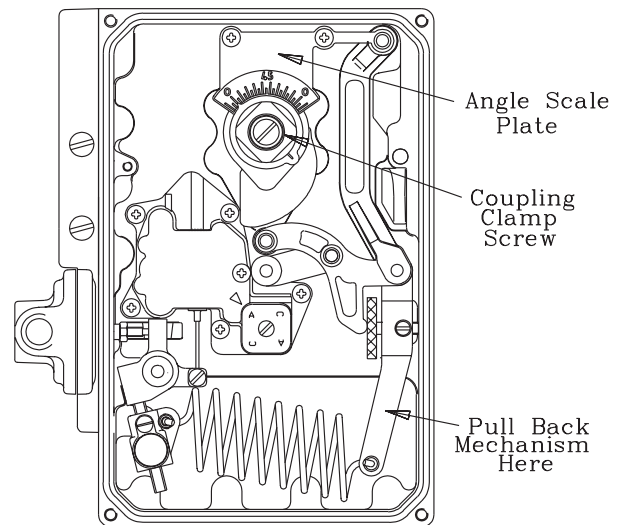

Figure 2. View of inside of Positioner Box Showing Parts for Removal During Installation.
2.1.2 Remove positioner cover and undo the two M4 screws retaining the red angle scale plate and remove coupling as shown in figure 2.
2.1.4 Observe the direction that the cam moves with a rising signal and, if correct, place the coupling on the actuator square with one hand whilst pulling back the mechanism with the other (refer to figure 2). If the direction is not as required then refer to section 4.1. If the actuator has been correctly positioned near mid-stroke, the cam follower will contact the cam at approximately half way. Ensure that the coupling is pushed fully onto the actuator square and tighten the central fixing screw which will have the effect of centralising the cam follower on cam. Refit the angle scale plate.